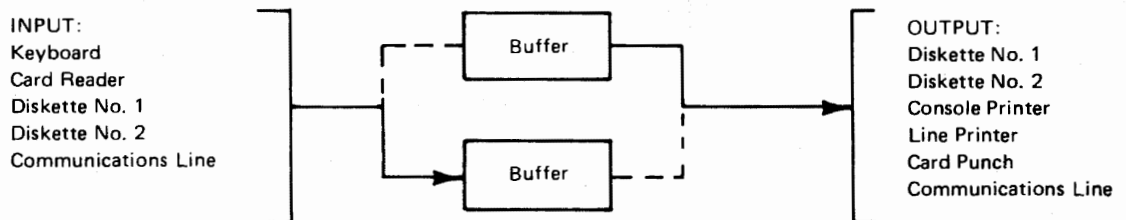

Figure 1-3. IBM 3774 and 3775 Data Path
Figure 1-3, IBM 3774 and 3775 Data Path, illustrates the path of data when running a job on the terminal. A job is a unit of work on the terminal; for example, transferring punched card data from a card reader to the terminal's console printer. The "Overview of IBM 3774 and 3775 Communication Terminal Operation" section that starts Chapter 2 summarizes the steps in running a job on the terminal: (1) Power on, (2) Define the job's input and output device combination and features, (3) Start the job, and (4) End the job.